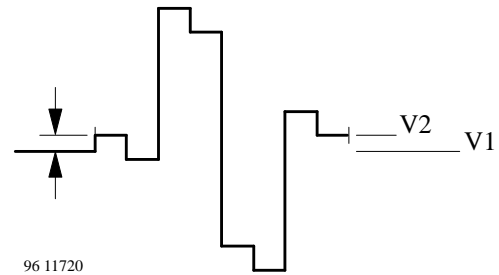

Figure 5. Black level error at Pin 9 (R–Y)
4. Measure the difference between the blanking (V_1) and the black level (V_2) (see figure 5).